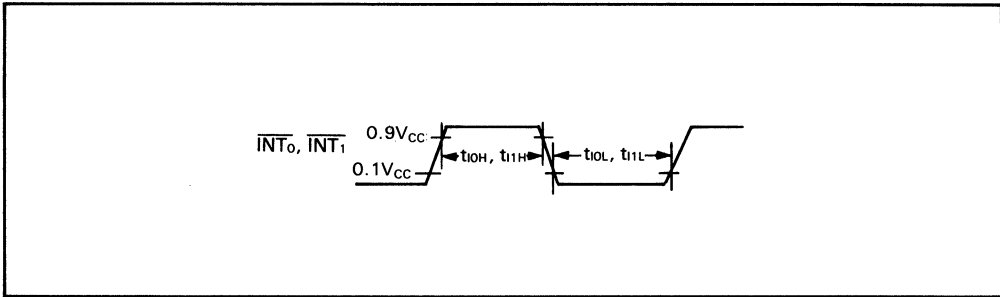

Figure 54. Interrupt Timing
4. See figure 54. The unit t_{cyc} is applied when the MCU is in the standby mode or active mode.
6. See figure 54. The unit t_{SUBcyc} is applied when the MCU is in the watch mode or sub-active mode. $t_{SUBcyc} = 244.14 \mu s$ (when 32.768 kHz crystal oscillation is used.)